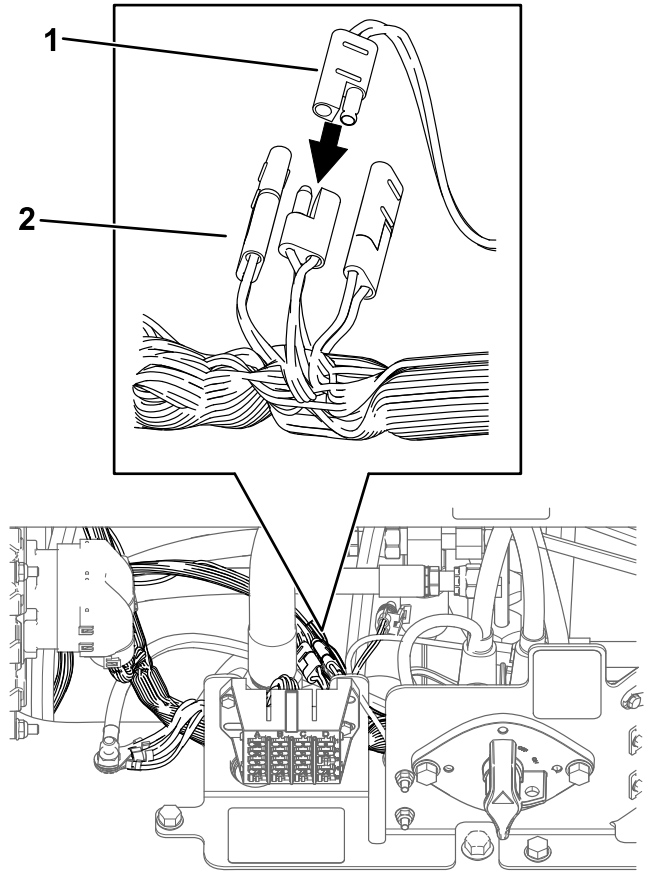

Figure 8
4. Remove the plug from an accessory connector on the machine wire harness (P50, P75, or P76) and plug the kit wire harness to it (Figure 8).